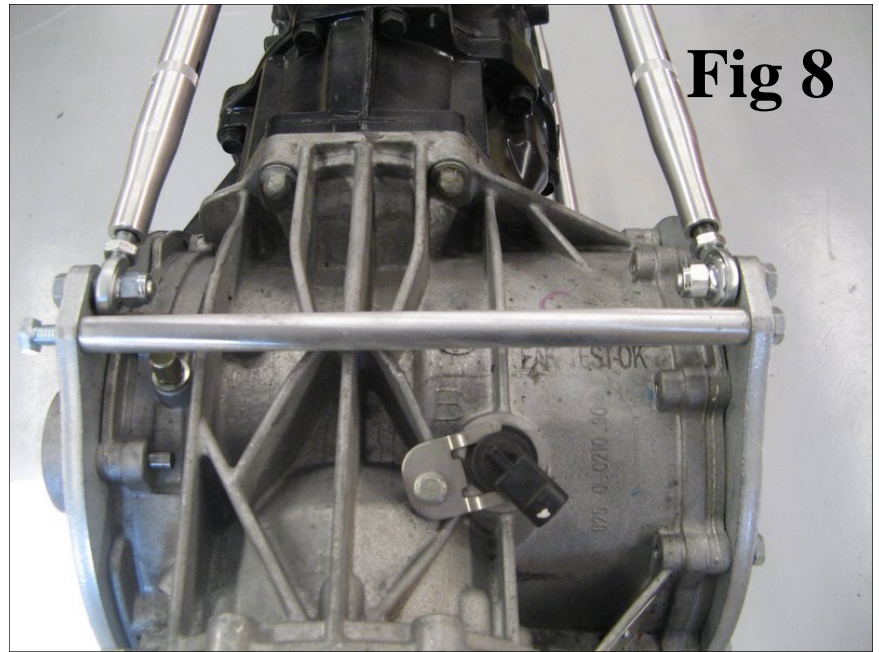

Fig 8
29. Install the differential cross bar using the 2 supplied 3/8 16 bolts. Torque the bolts to 40 ft lbs. (fig. 8)